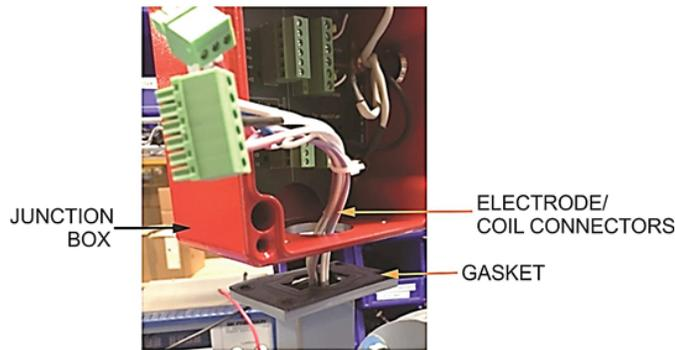

Figure 4: M2000 electrode and coil connectors
6. Thread the *electrode* and *coil* connectors into the junction box. See Figure 4.
7. Using the 4 mm or 5/32 in. bit and electric driver, attach the junction box to the detector with the gasket in between. See Figure 4. Use the same bolts that were removed when the amplifier and detector were disassembled. Torque the bolts to 4.7 Nm.